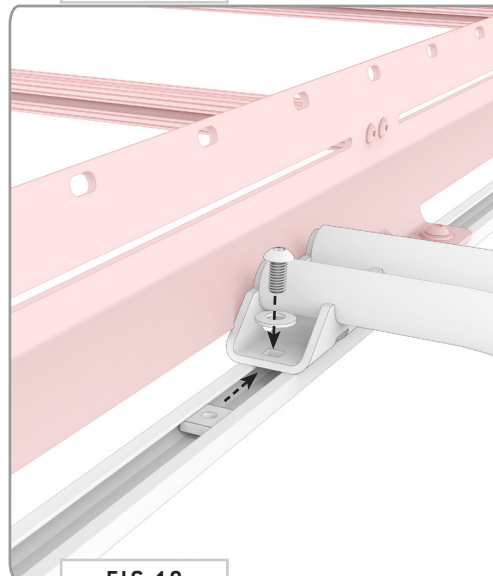

FIG 10
3.2 Attach Surf Pole: Loosely secure Surf Pole to Rail Nuts using (2) 3/8-16 x 0.5" Button Head Hex Screws and Washers (**FIG 10+11**).